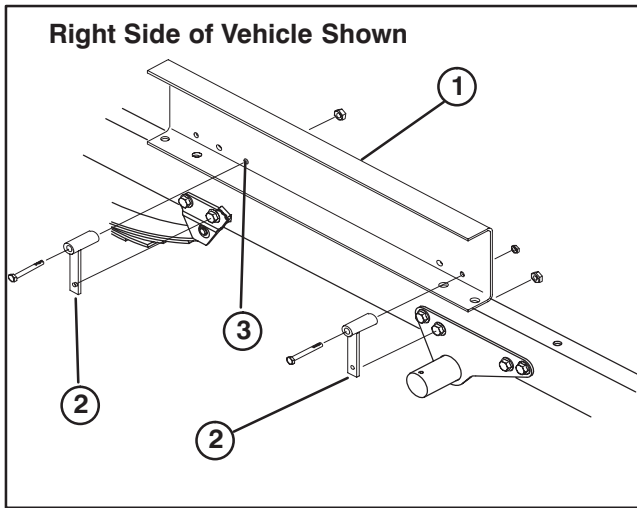

Figure 4
7. Insert a lift mounting bracket onto flange screw and loosely secure to engine frame and vehicle frame with locknut removed. Bracket to be positioned as shown in figure 4.
9. Insert a lift mounting bracket onto flange screw and loosely secure to leaf spring mount and vehicle frame with locknut removed. Bracket to be positioned as shown in figure 4.
13. Secure lift mounting brackets to right side of lift with (2) 5/16–18 x 2–3/4" lg. flange head capscrews and flangenuts (Fig. 4). Tighten all fasteners.